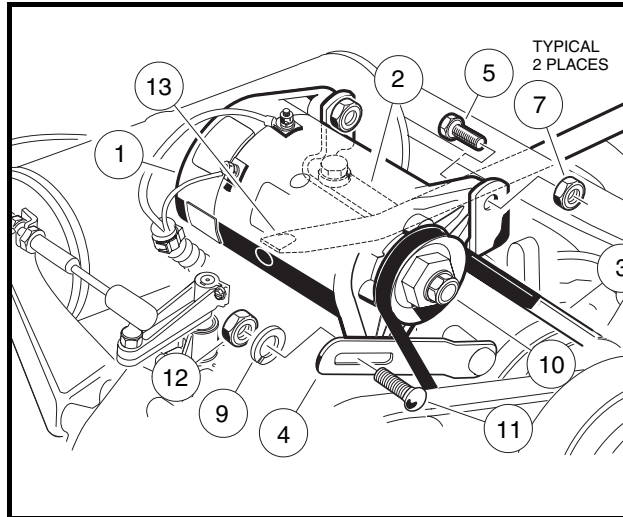
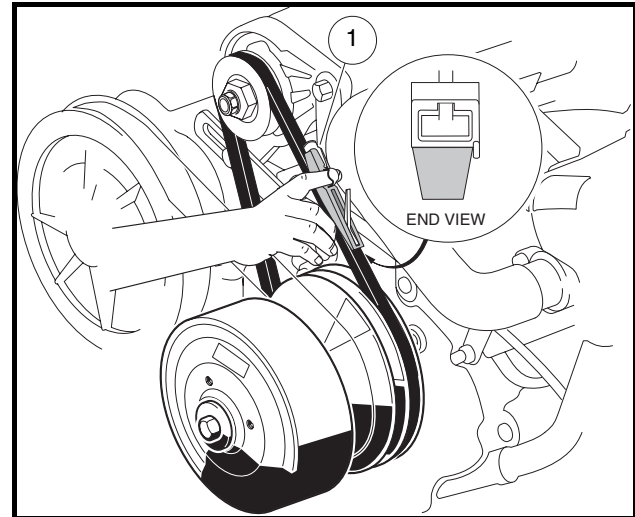

Figure 13-13 Starter/Generator Assembly
Figure 13-14 Belt Tension Gauge
2. Install two 3/8-inch hex-head pivot bolts (5) into the mounting bracket with the heads of the bolts facing towards the driver side of the vehicle. Position the starter/generator in the mounting bracket so that the bolts will go through the starter/generator before going through the bracket. Install a locknut (7) onto each bolt and tighten to finger-tight (**Figure 13-13, Page 13-10**).
3. Install the adjustment bolt (11) through the adjusting bracket (4) and then through the starter/generator. Install a lockwasher (9) and 5/16-inch nut (12) onto the end of the adjustment bolt (11) and tighten to finger-tight (**Figure 13-13, Page 13-10**).
4. Install the belt (3), then tighten the mounting bolts. **See Belt Tension Adjustment on page 13-10.**
3. Make sure the two pivot bolts (5) on the mounting bracket, carriage bolt (11) and hex nut (12) are finger-tight (**Figure 13-13, Page 13-10**).
4. Push the starter/generator down to its lowest point of adjustment travel. With the starter/generator belt in place around the drive clutch pulley, install the starter/generator belt (3).
5. Place a pry bar (13) between the top of the starter/generator mounting bracket (2) and the underside of the starter/generator, by passing the pry bar under the exhaust header.
6. Hold the pry bar and measure the belt tension using a Krikit[®] gauge (1) (available at NAPA[®] Auto Parts stores), or equivalent. Proper tension for a new starter/generator belt should be 75 ft-lb (101.7 N·m), or 45 ft-lb (61 N·m) for an existing belt (**Figure 13-14, Page 13-10**).
7. While maintaining the tension, tighten the adjustment nut (12) to 144 in-lb (16.3 N·m). Tighten the two pivot bolts (5) and hex nuts (7) to 23 ft-lb (31.2 N·m) (**Figure 13-13, Page 13-10**). **See following CAUTION.**